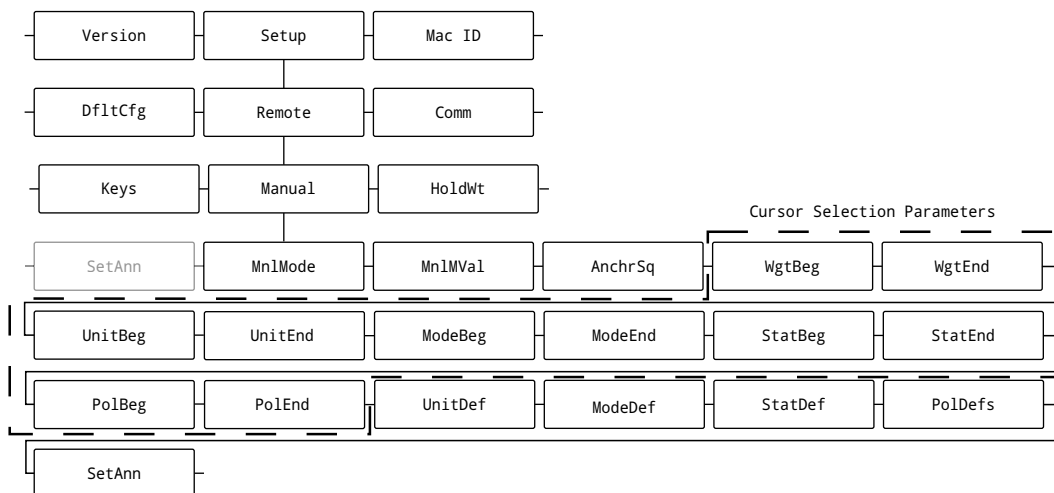

Figure 4-6. Manual Mode Cursor Selection Parameters Menu Paths
Figure 4-6 displays a menu path to Manual Mode parameters that require cursor selection.
*see Figure 4-6 on page 41
Figure 4-6 displays a menu path to Manual Mode parameters that require text string configuration.